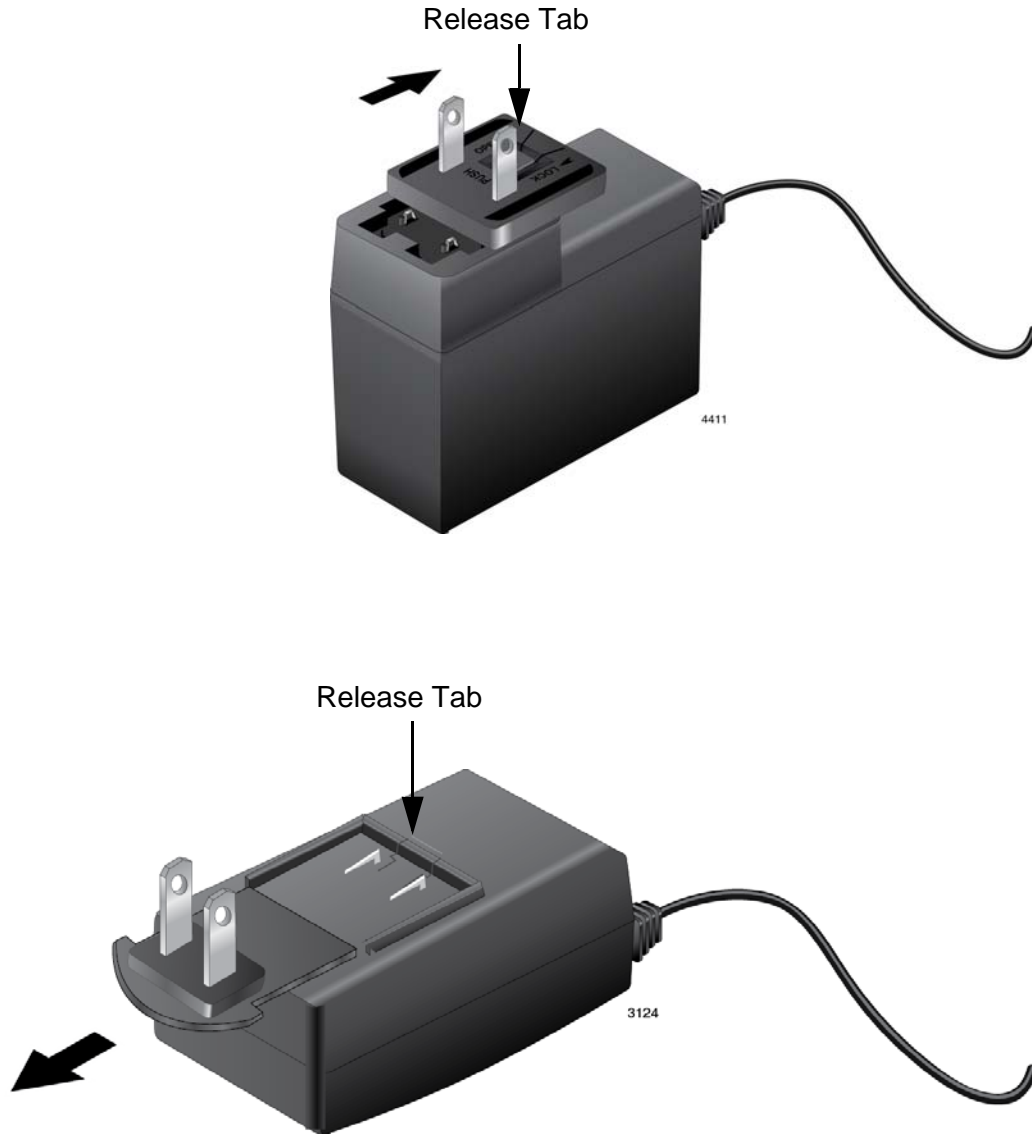

Figure 16. Removing an AC Plug from the AT-TQ0091 AC/DC Power Adapter
2. Verify that the AC plug on the AC/DC Power Adapter is the correct plug for your region. If it is not the correct plug, remove it by pushing down on the release tab and sliding it from the slot on the adapter. Refer to Figure 16 on page 45.